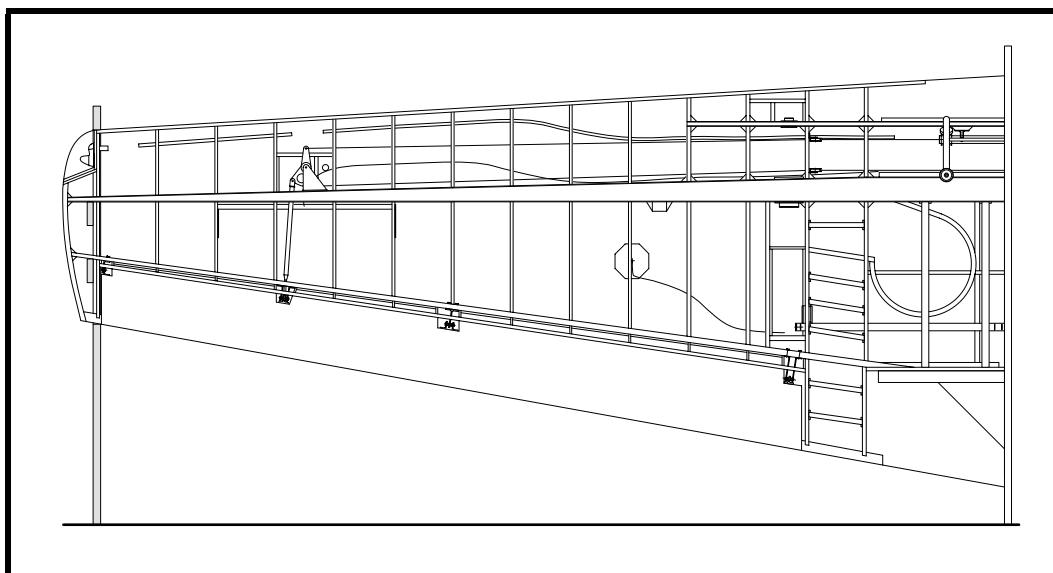

Figure 34
- ❑ Install the No. 2 COM antenna in the left wing. See the instructions in Chapter 14 "Antenna Installation". See Drawing No. 160 and 161. As shown in Figure 34, epoxy the antenna between two strips of spruce or plywood and glue this to spruce blocks installed in the gusset pockets of the Sta. 9, 10, 11 and 12 ribs. At each end, the antenna foil element is glued to the inboard face of the Sta. 9 and 12 ribs, again sandwiched between two plywood or spruce strips. Install spruce corner blocks to reinforce the corners of the antenna.